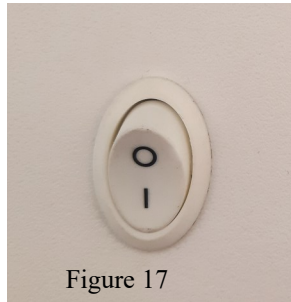

Figure 17
1. The led lights are operated by a separate switch, simple on / off, located on the trim ring, pictured below in *Figure 17*.